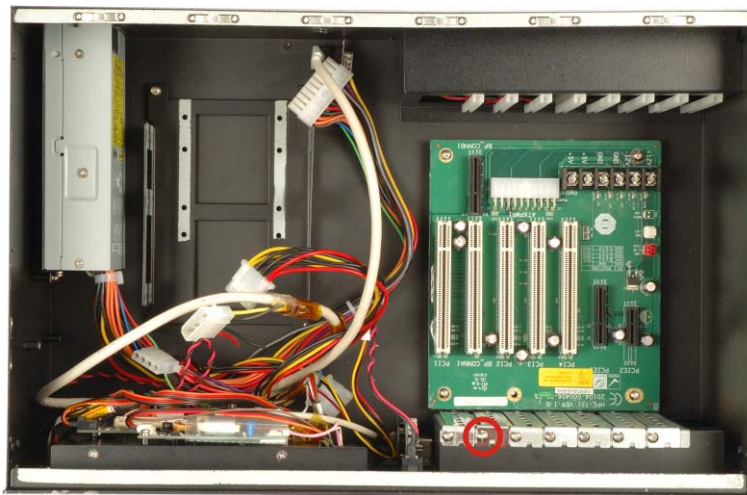

Figure 4-6: Slot Cover Retention Screw
Step 1: Remove the slot cover retention screw to remove the slot bracket from the chassis rear panel (**Figure 4-6**).